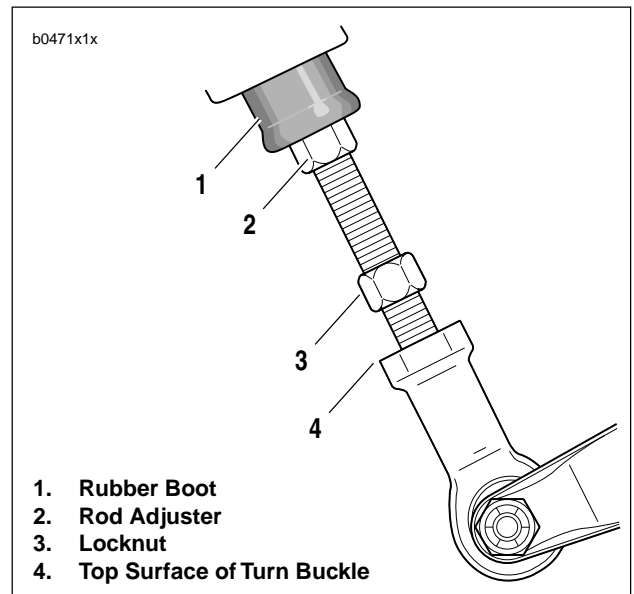

Figure 1-12. Pushrod Adjustment
1. See Figure 1-12. Slide rubber boot (1) upward.
2. Measure distance from bottom edge of rod adjuster (2) to top surface of turn buckle (4).
- a. If measurement is approximately 0.84 in. (21.3 mm), slide rubber boot (1) down over assembly. Brake pedal adjustment is not needed.
- a. See Figure 1-12. Loosen locknut (3) while holding rod adjuster. Move locknut away from top surface of turn buckle.
- c. Return locknut (3) to fit flush against top surface of turnbuckle (4).
- d. Slide rubber boot (1) down over rod adjuster (2).